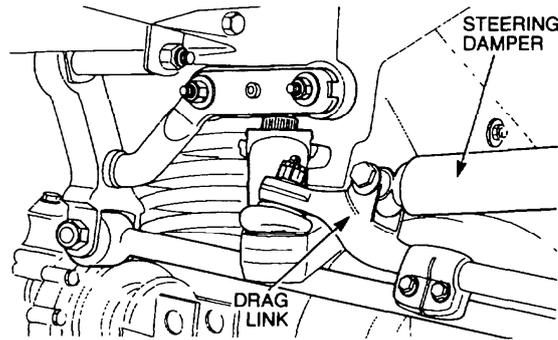

Figure 166 Steering Damper to Drag Link Removal
- b. Remove the locknut and bolt securing the steering damper to the drag link (Figure 166). Discard the locknut.
- e. Remove the locknut and bolt securing the steering damper to the drag link (Figure 166). Discard the locknut.